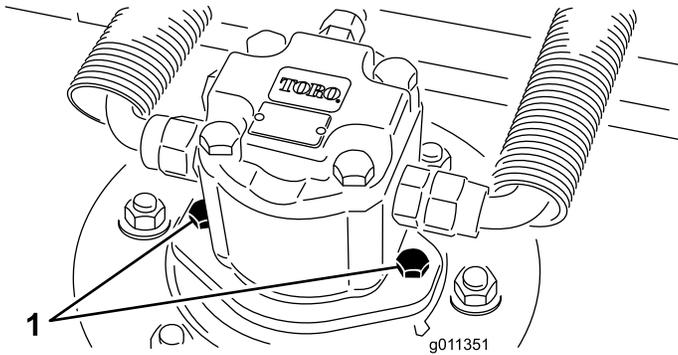

Figure 61
2. Disconnect and remove the hydraulic motor from the cutting unit (Figure 61). Cover the top of the spindle to prevent contamination.
4. Install the hydraulic motor to the cutting unit (Figure 61). Make sure that the O-ring is in position and not damaged.